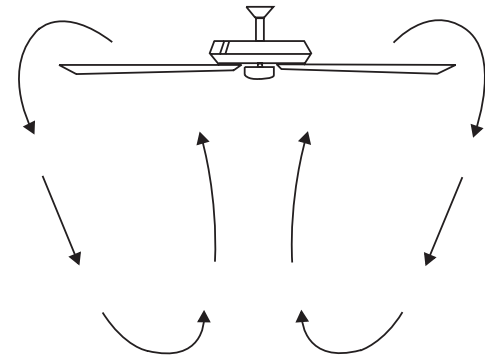

Fig. 23
**Cool weather** - Reverse (clockwise) An upward airflow moves warm air off the ceiling area as shown in Fig. 23. This allows you to set your heating unit on a cooler setting without affecting your comfort.